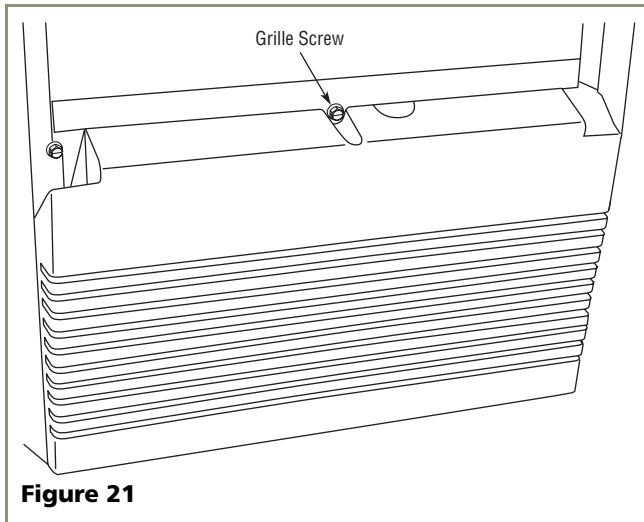

Figure 21
1. Locate and remove the grille screw from the cabinet, using a standard blade screwdriver (or a 1/4" nutdriver). See **Figure 21**.